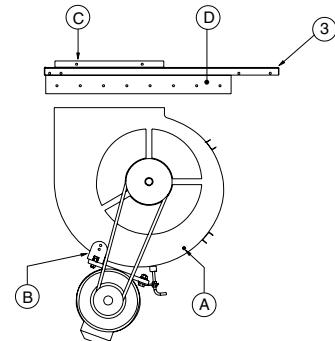

Fig. 3
- 3.- Change the motor and its supports, the fastening rod and screws to the B position in the 8 Ø holes drilled on the fan as indicated, being careful to leave the pulleys aligned (the tensing centre should be at about 20 mm. from the front of the fan) (Fig. 3).
- 4.- Fasten the fan to tabs "C" and supports "D" of the top panel (3), either before or
after installing same on the machine, with the new self threading screws included in the kit (Fig. 3).